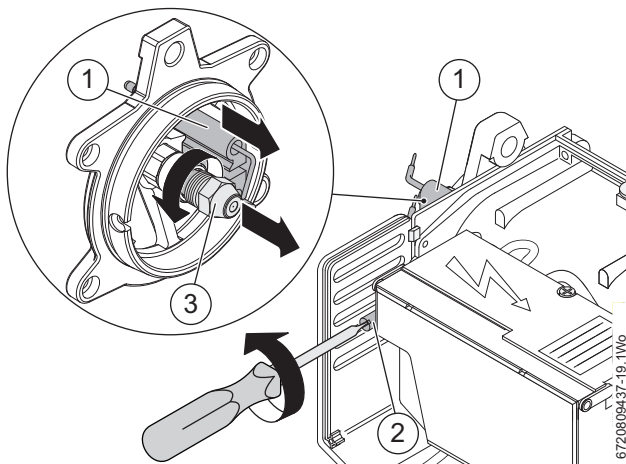
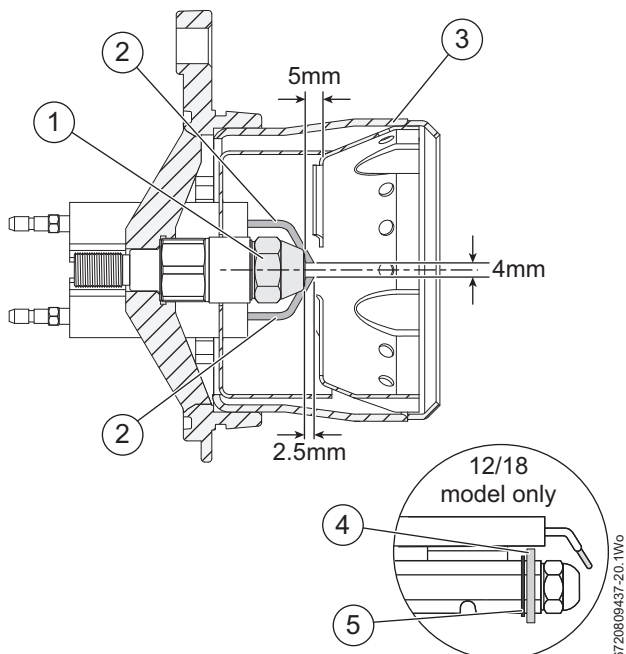

Fig. 33 Nozzle access
Fig. 34 Nozzle and electrode alignment
- ▶ Before removing or fitting a nozzle [3], loosen screw [2] (figure 33) and move the electrodes [1] forward. After refitting check that the electrode gaps are correct, as shown in figure 34.
- ▶ The 12/18 model has a brass deflection washer [4] figure 34 and locating circlip [5] figure 34 behind the nozzle. These must be in place for the correct operation of the burner.
- ▶ Check that the nozzle [1] and the electrode [2] alignment settings are correct as shown in figure 34.